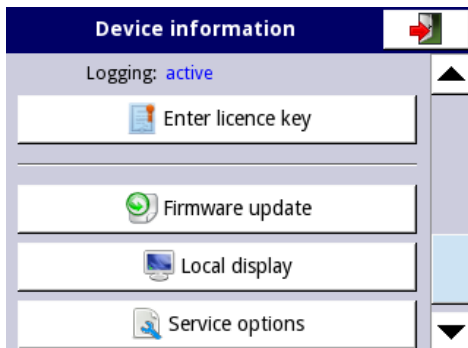

Fig. 7.26. Device information menu
Enter licence key button (see Fig. 7.26) allows the user to enter a licence key purchased from the manufacturer (or supplier), enabling additional software options which enhance the functionality of the device. After entering and accepting the licence key the device automatically starts up with new software options (if the licence key for data logging is entered the text under the **Licences** heading appears as: **Logging**: the period of validity - see Fig. 7.26).
Firmware update button (see Fig. 7.26) allows the user to update the device software. To perform the update:
- plug in the flash drive - start the update process by pressing the **Firmware update** button (see Fig. 7.26).